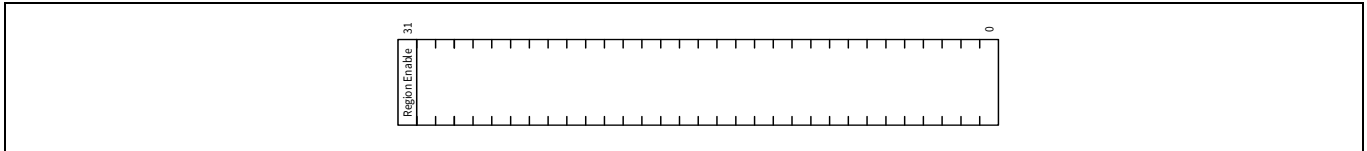

Figure 6-9. Composition of size elements
- FWPUs_SIZE_[3:0], ERPUx_FUSE_SIZE_[3:0], EWPUs_FUSE_SIZE_[3:0]: These elements set the area size to be protected by each protection unit. The MSb indicates that the region is enabled when set to '1'. **Figure 6-9** shows the composition of each element.